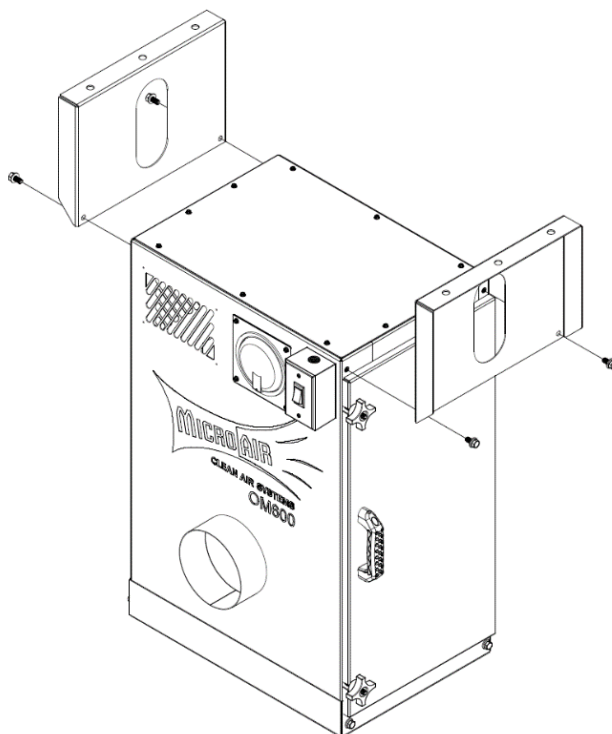

FIG. 3
2. Remove the two 5/16-18 bolts from each side of the cabinet on the top side of the unit to secure legs in place. Mount legs to cabinet using removed bolts (**FIG. 3**).